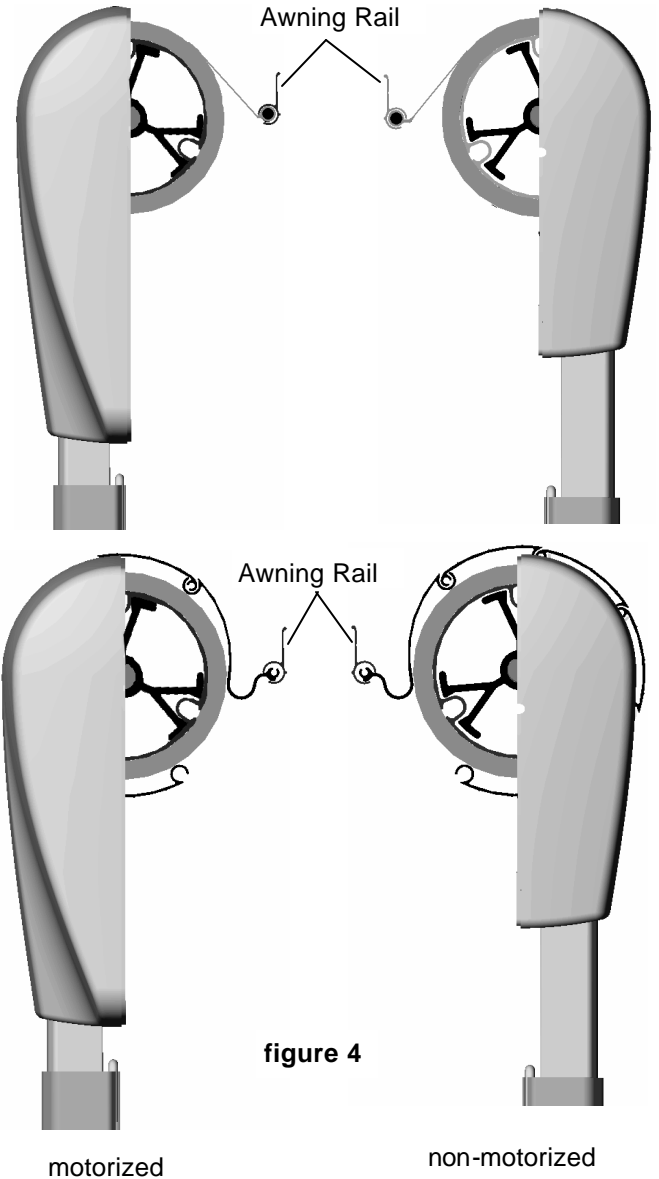
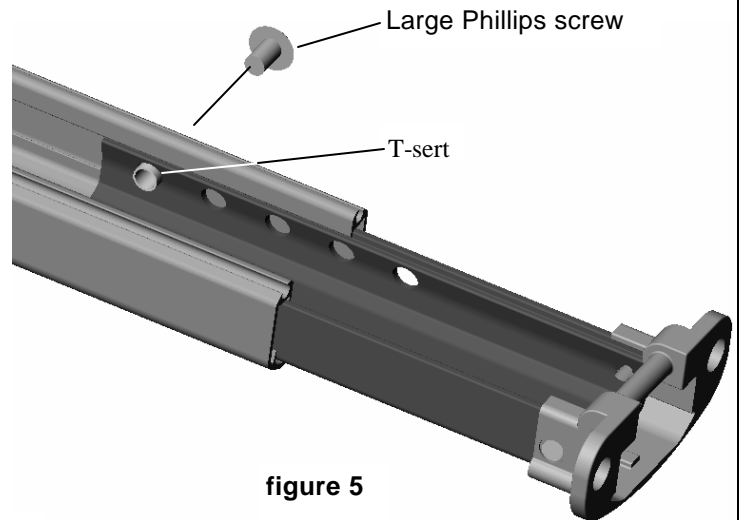

figure 4
figure 5
A. When the awning assembly is installed on the RV it should closely match (figure 4) showing the awning assembly viewed from the motorized and non-motorized sides. Start by removing the large Phillips Screw assembly on the side of the motorized arm assembly and slide the adjustable leg out of the arm assembly (figure 5).